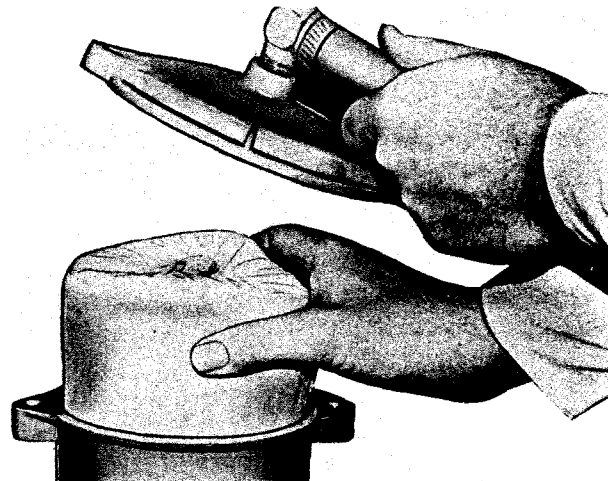

Fig. 5-26. Cummins corrosion resistor
7. Remove transparent bag from new element(s); install element(s) in housing. Fig. 5-26.